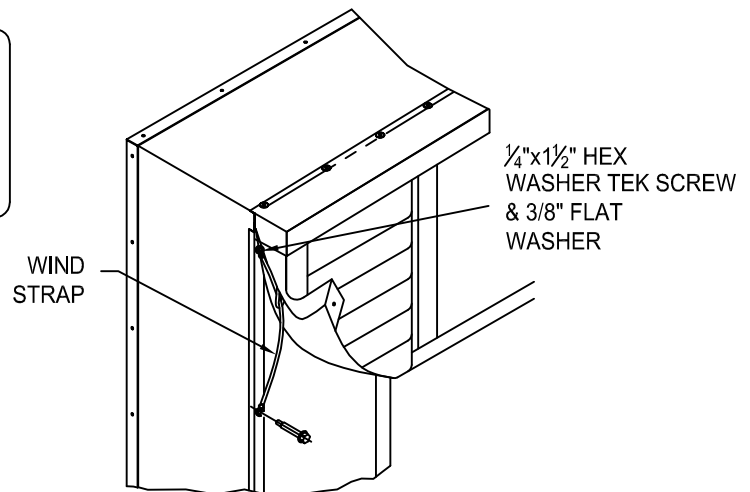

FIG. 15
* Secure wind straps with 1/4" x 1 1/2" hex washer tek screws and 1/4" BS flat washers (FIG. 15). Bungee must be snug.